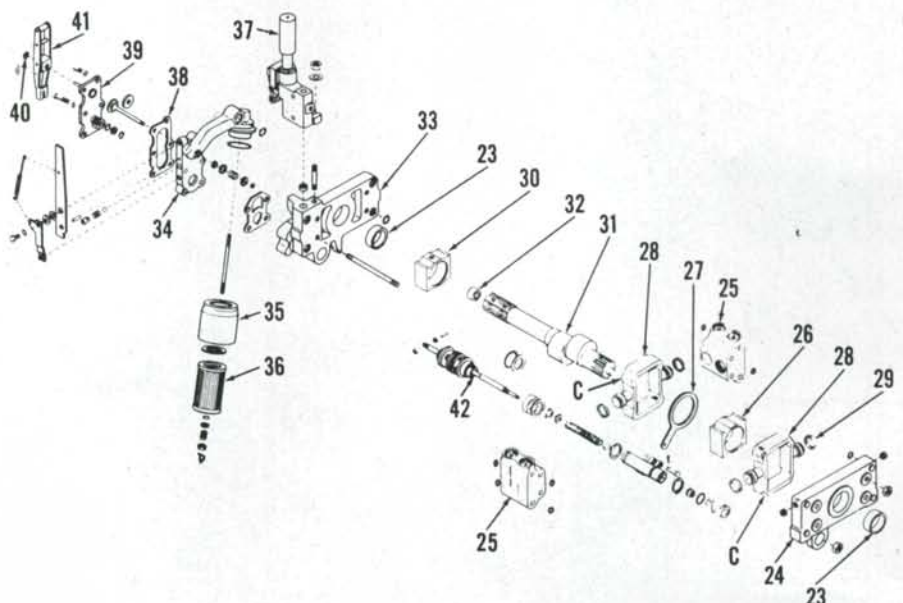

Fig. 294—Exploded view of hydraulic lift pump used on models with pressure control. Chamfered corners (C) of piston yokes face away from each other.
Remove retainer clip (40—Fig. 294 or 295), then slide control lever (41) from control valve rollers. Remove rollers and pin from end of control valve (42). Remove filter element (36—Fig. 294) and cover (35), then unbolt and remove intake housing (34—Fig. 294 or 295) with cover plate (39) and slide valve assembly from pump rear body.
Remove end cap (1—Fig. 297) from front of oscillator drive, and remove pin (4) retaining oscillator (7) to cam follower (5). Remove nuts attaching pump bodies together, then slide front body (24—Fig. 294 or 295) off mounting studs. Withdraw control valve (42) and oscillator as a unit from rear body. Carefully slide piston yokes (28), valve chambers (25), cam blocks (26 and 30) and camshaft (31) from rear body (33). Separate cam blocks, piston yokes and valve chambers from camshaft.
**225. VALVE CHAMBERS.** Both valve chambers (25—Fig. 294 or 295) are identical and interchangeable, and each contains two sets of valve components (5 through 12—Fig. 298). To disassemble the chamber, remove snap ring (12) and thread a 1/4 inch UNC bolt into plug (11) to provide leverage. Plug can be pulled by hand. A reseating reamer (Tool No. N-6007A) is available which dresses both seats in one bore at the same time. If tool is used, remove only enough metal to smooth the seats. All parts are available individually.
**226. INTAKE HOUSING.** The response control valve and the nonreturn valve are contained in the intake housing (34—Fig. 294 or 295). Refer to Fig. 299 for an exploded view of intake housing and components.
Fig. 295—Exploded view of hydraulic lift pump used on models without pressure control. Refer to Fig. 294 for legend except for the following: Preset safety relief valve (37) is used in place of servo valve. Thrust washers (45) are used on late production pumps.
shoulder faces inward. Slide camshaft assembly into rear body making sure that end of cam follower (27—Fig. 294 or 295) is toward bottom of pump.
Assemble pin (14) and rollers (13) on to end of control valve with flat side of rollers against spool. Install pump control lever (41—Fig. 294 or 295) and retainer clip (40). Install servo valve assembly (if so equipped) and tighten mounting stud nut to a torque of 40 N·m (30 ft.-lbs.). Connect diaphragm pivot lever link to pump control lever. Turn diaphragm adjusting screw into pivot lever until three threads are visible on inner side of pivot lever to provide initial adjustment. Final adjustment of servo valve is made after pump is installed as outlined in paragraph 213.